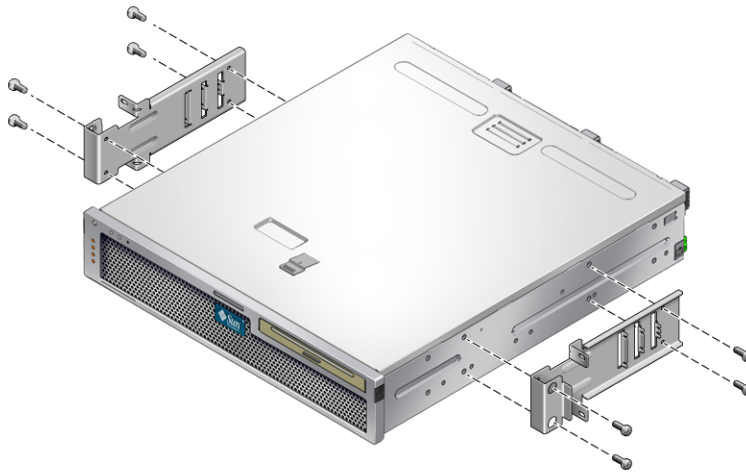

FIGURE 4-9 Securing the Side Brackets to the Side of the Server
2. Using four of the M5 x 10 SEM screws for each side bracket, secure the side brackets to the sides of the server (FIGURE 4-9).